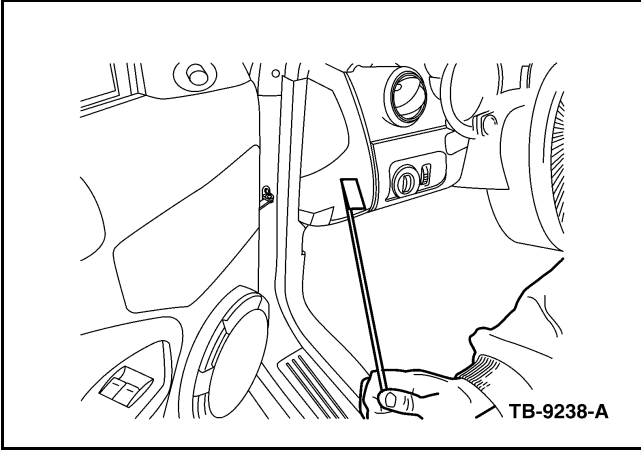
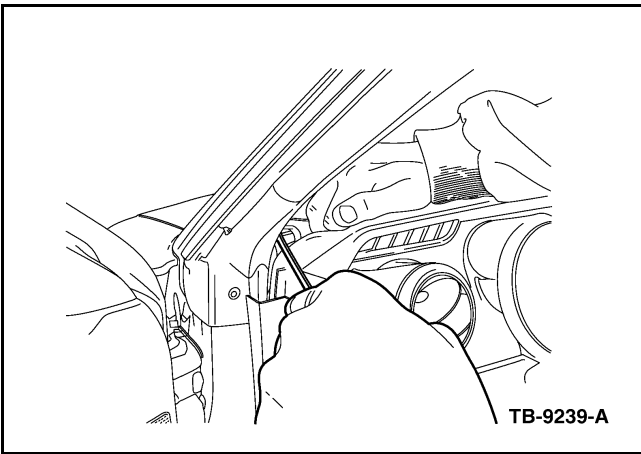

Figure 3 - Article 08-24-10
Figure 4 - Article 08-24-10
3. Attach tape to end of screwdriver. (Figure 3) Insert under dash panel flange with plastic side of tape up. (Figure 4) Press down on dash panel to secure adhesive. Hold pressure on dash while removing screwdriver.